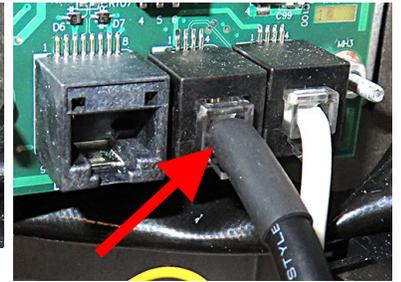

Figure 10
14. The OQS sensor is connected to the other end of the adaptor cable (see Figure 10).